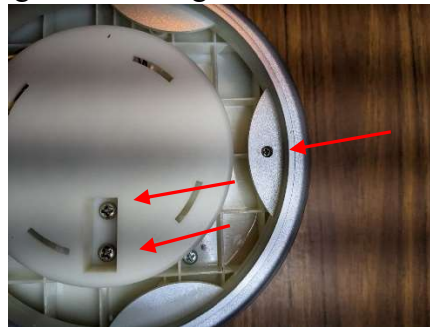

Figure 7. Screws securing mounting bracket for circular platform and 5th screw securing enclosure top to bottom
2. Remove the rubber feet on the back of the scale to reveal the 4 small Philips head screws, and remove these screws, placing them in a secure location to avoid losing them. Remove a 5th screw accessed from the top as shown in Figure 7 below. There is a 6th screw that is accessed from the top, by partially lifting the clear plastic cover over the top overlay, then lifting a small section of the black overlay using an Xacto knife. Alternatively, the boss for this screw can be drilled out from the front side as can be seen in the photo. The scale enclosure can be adequately reassembled without using this 6th screw.